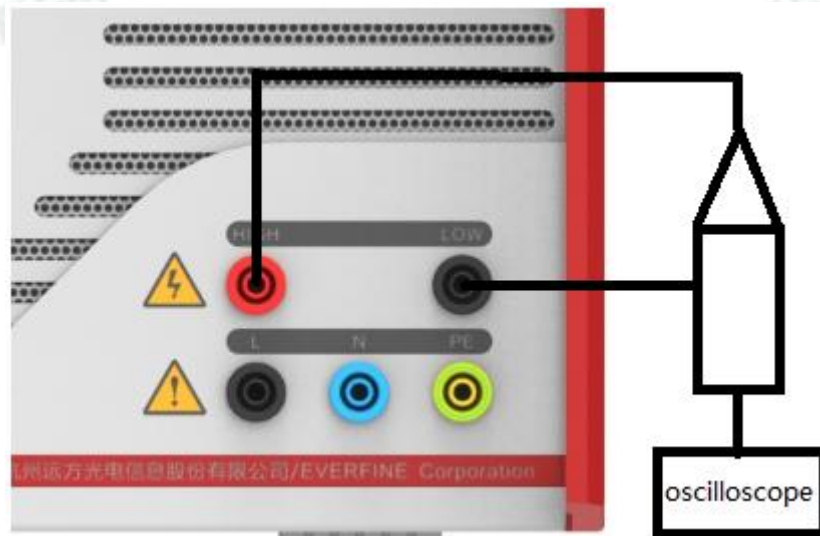

Fig6.1 CWG module directly outputs the open circuit voltage check wiring diagram
(2) Test steps:
- ① According to Fig6.1, set "module selection" as CWG, "trigger mode" as automatic, and "pulse"Interval/number "is 100 times," phase "is asynchronous," polarity "is +, and" coupling path" is direct output.
- ② Select the four test points of "voltage" - "setting value" for 0.5kV, 2.0kV, 4kV and 7kV.
- ③ Press the run button at each test point. Read the peak voltage and wave front from the oscilloscope. During the interval and half peak time, the allowable error should meet the requirements of relevant technical indexes in Chapter 2.
- ④ When the test is complete, set "polarity" to "-" and repeat the steps ②、③.